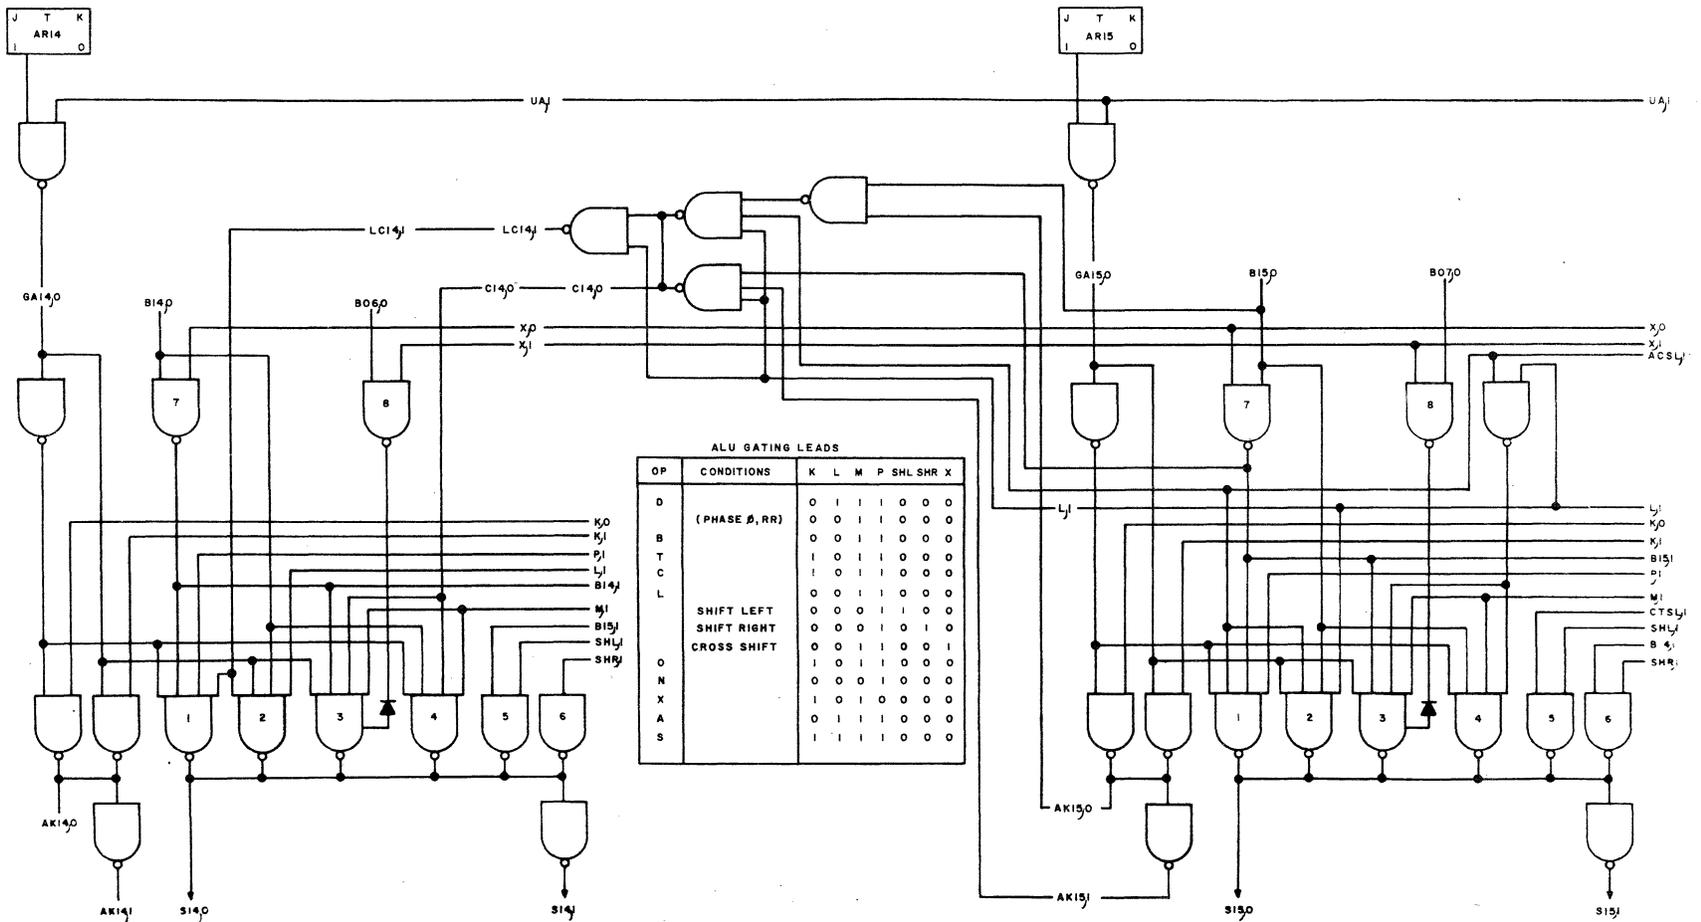

Figure 2. Functional ALU Block Diagram
The Arithmetic Logic Unit (ALU) consists of logic to perform all required arithmetic, shift and Boolean connect functions. The ALU is halfword oriented and may be divided into three functional groups: an A Register, summing logic, and carry logic. See Figure 2. The B Bus provides the operand for shift operations, and one of the operands for arithmetic and Boolean connect operations. The second operand for arithmetic and Boolean connect operations is in the A Register. The A register is loaded from the S Bus prior to the arithmetic or Boolean connect function.
The ALU receives seven control inputs from the op-code decoder. These inputs are briefly defined in the following list and summarized on the table associated with Figure 2.
Each micro-instruction which uses any part of the ALU, is described in the following paragraphs. Unless otherwise noted, all gate references in the following paragraphs refer to the arbitrary designations on Figure 2.
3.4.1 Load, Load Immediate, Branch, Test and Command. These micro-instructions cause the contents of the B Bus to pass unaltered through the ALU to the S Bus. This function is performed by Gate 3 of the summing network (Figure 2).
Signal  $SHL_1$  is high during a Shift Left, and signals  $M_1$  and  $SHR_1$  are low. (See the Table on Figure 2.)
3.4.4 Cross Shift. This micro-instruction swaps the upper and lower halves of the B Bus and places the data on the S Bus. The Carry In option (CI) has no meaning for this micro-instruction. If the Carry Out option (CO) is specified, the Carry Store flip-flop (FLR12) is reset. Gate 3 of the summing circuit and Gates 7 and 8 are used
to perform this function. Since this is not an Arithmetic micro-instruction, the carry circuits are disabled ( $L1 = 0$ ). This forces all carry outputs high. Also, since this micro-instruction does not have a second operand, the A Register (AR) is not unloaded ( $UA1 = 0$ ). This forces the GAn0 leads high, and the GAn1 leads low. Signals M1, P1, and X1 are high at this time, and signals SHL1 and SHR1 are low as shown on the table associated with Figure 2.